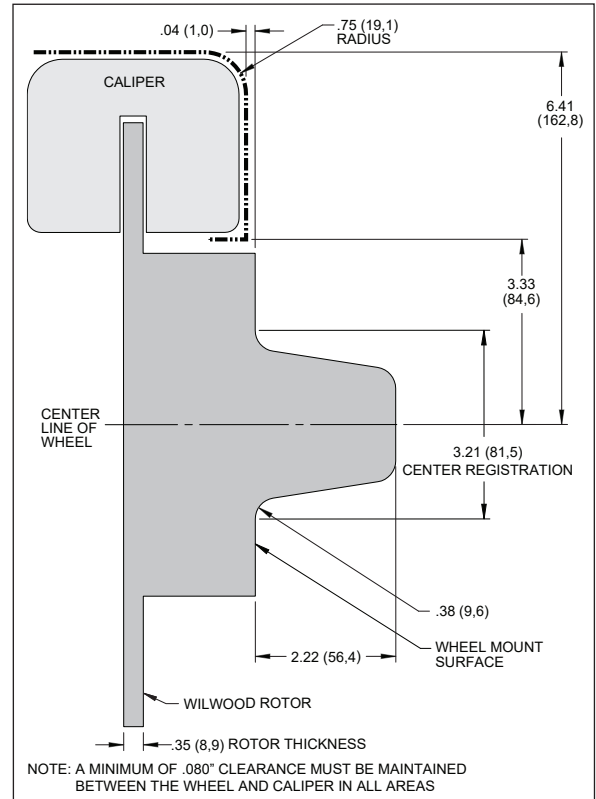

Figure 3. Wheel Clearance Diagram
- Review the wheel clearance diagram (Figure 3, page 4) to verify that there is adequate clearance with the wheels you will be using with the installation.
- Verify your wheel clearance using Figure 3.